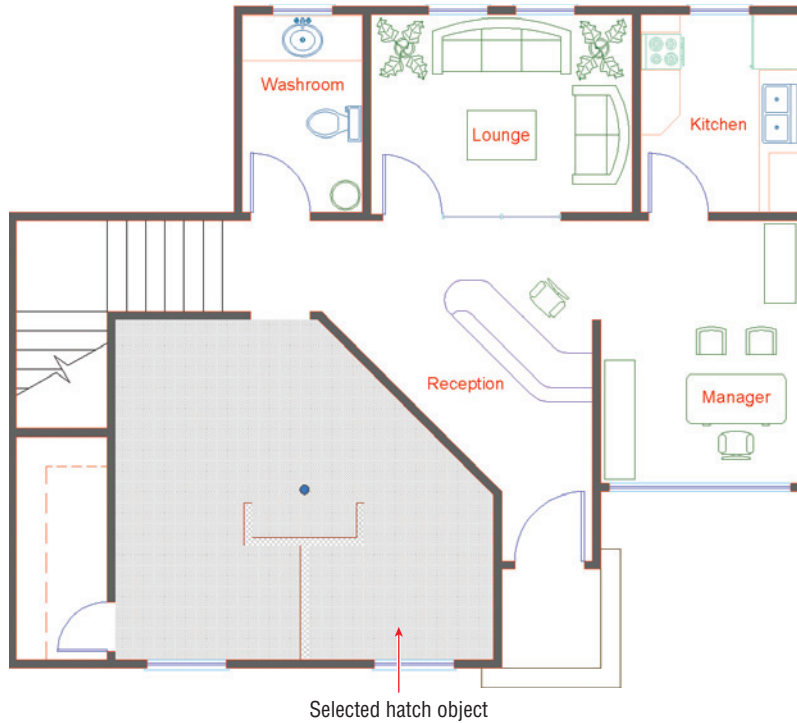

FIGURE 14.19 Selecting a hatch object
- Click the solid hatch of the flooring in Marketing to select it (see Figure 14.19).